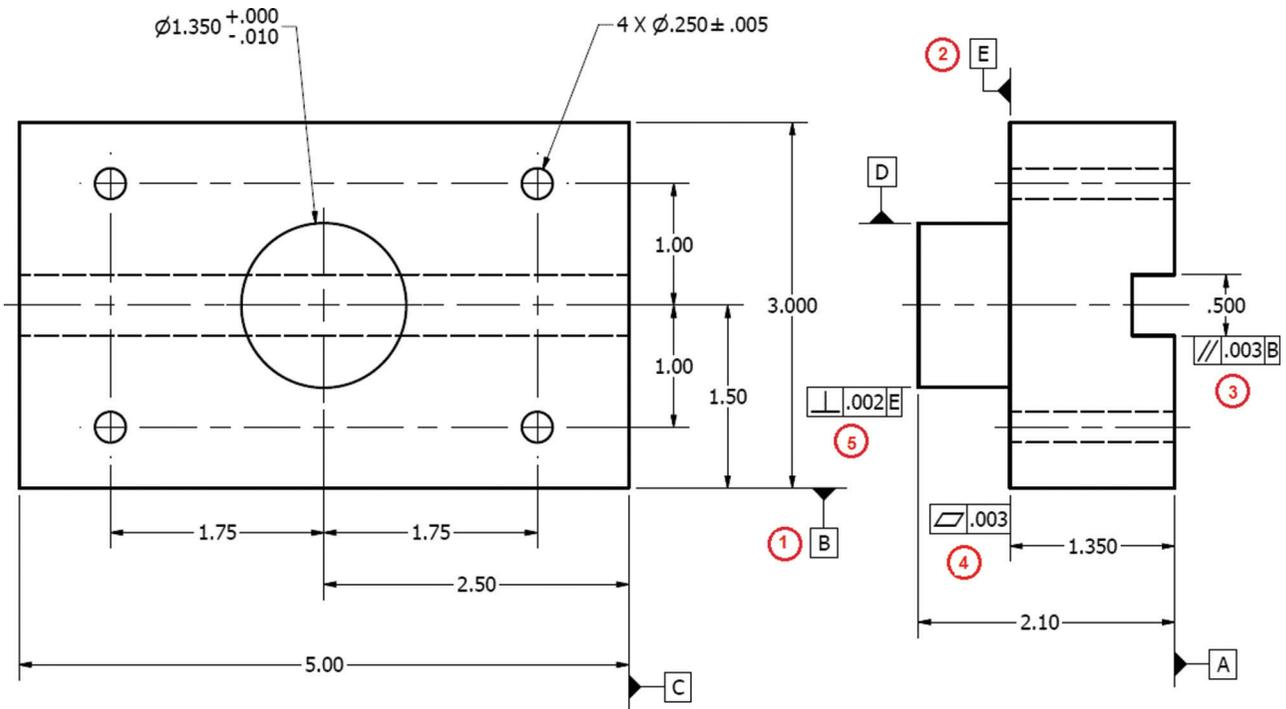

Figure A-112 Mill part.
4. Thoroughly explain the numbered features and tolerances (red 1-5) shown on the print in Figure A-112.